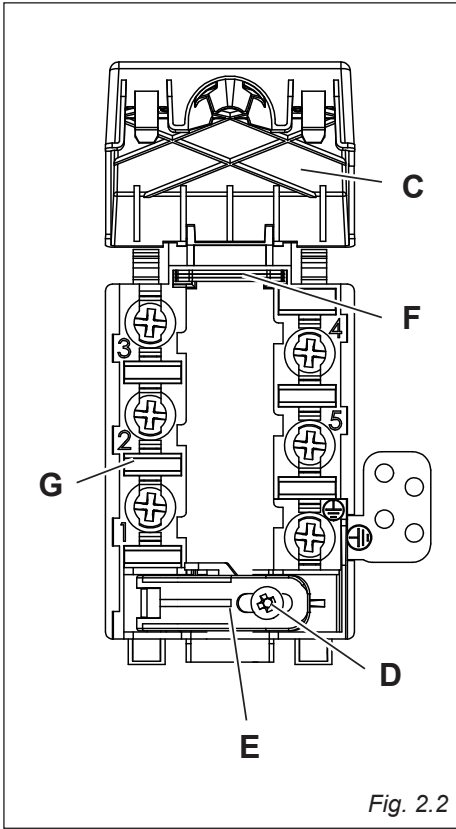

Fig. 2.2
- Unscrew the screw "D" and open completely the cable clamp "E" (figs. 2.2).
- Position the U bolts "F" onto terminal board "G" (figs. 2.2) according to the diagrams in fig. 2.3.